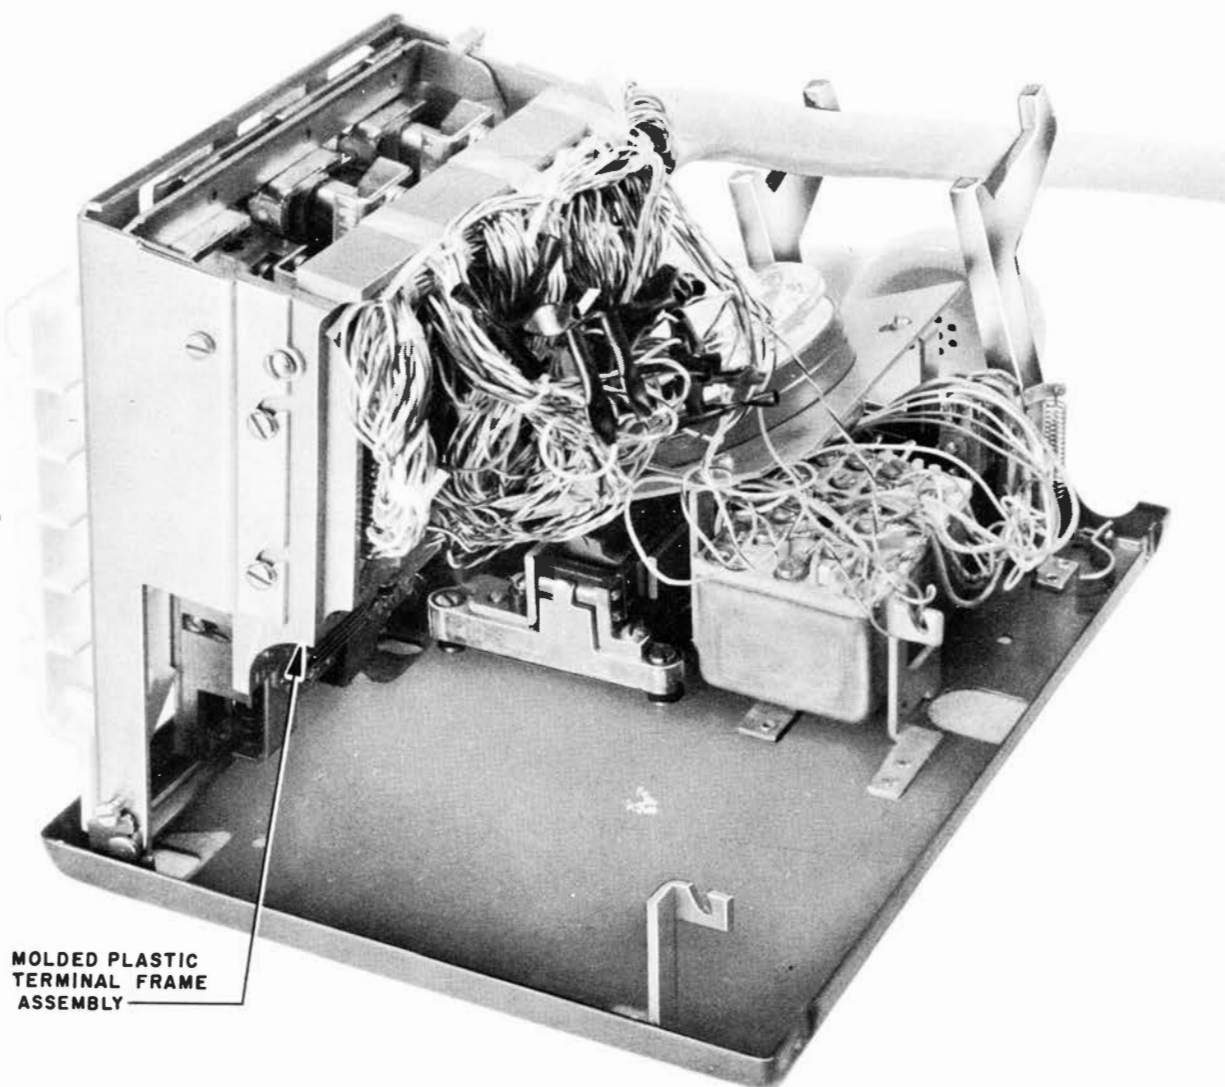

Fig. 17 — 630-Type Telephone Set, Key Frame Lifted
3. Loosen screws on sides of key frame (Fig. 17).